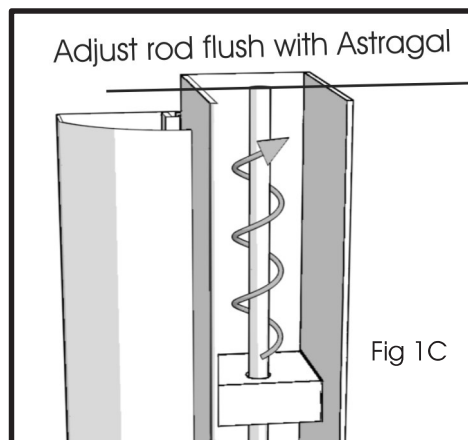

Fig 1C
**1C:** Set both flush bolts in the unlocked position (Top handle up and bottom handle down). Adjust the flush bolt extension rods so the tip of the rod is flush with the end of the Astragal (Fig 1C). Apply thread lock, or silicone caulk to the threads below the lock nut, and tighten the lock nut securely (Fig 1D).